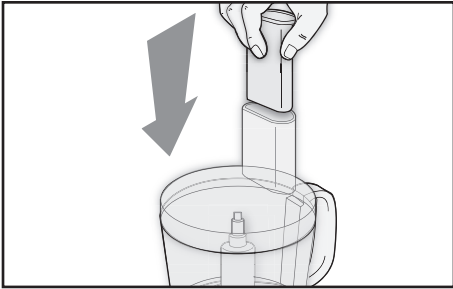

Fig. 8
- If it is necessary to add foods during appliance operation, use the opening in the lid (E). Push the foods down with the pusher (F) on its own (Fig. 8).
- To stop the appliance, turn the dial (A) to "0".